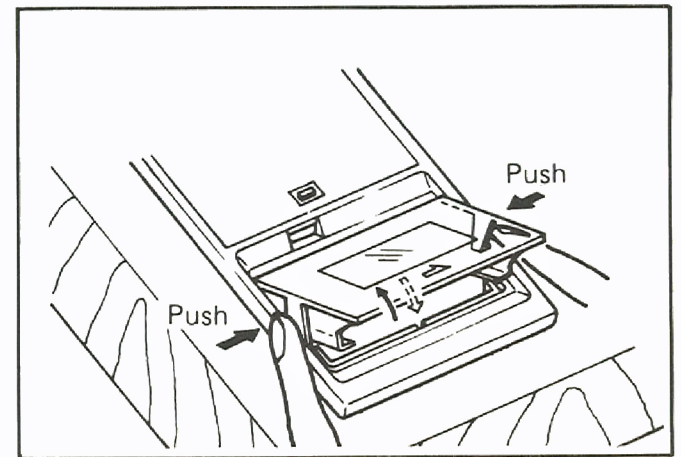

FIG. 2
3. Carefully push stops of cassette lid located on both sides, as shown in Fig. 2. Then cassette lid can now be removed from cassette cover.